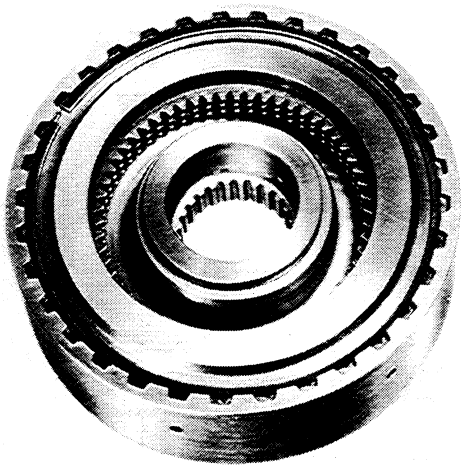

FIG. 24
17. Fig 24. Refit the retainer plate (50) and the snap ring (51).